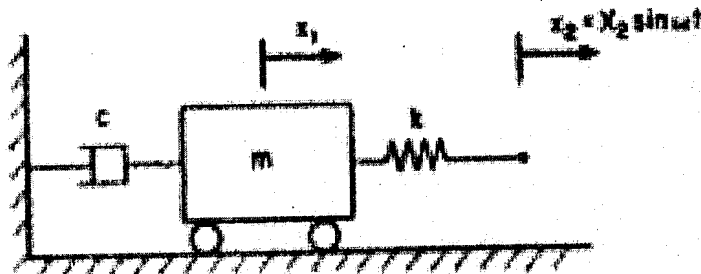

Figure 2
- Figure 2 shows a single degree-of-freedom system. Determine the steady-state amplitude and phase of the motion of the mass with the harmonic input indicated in the figure. (9)